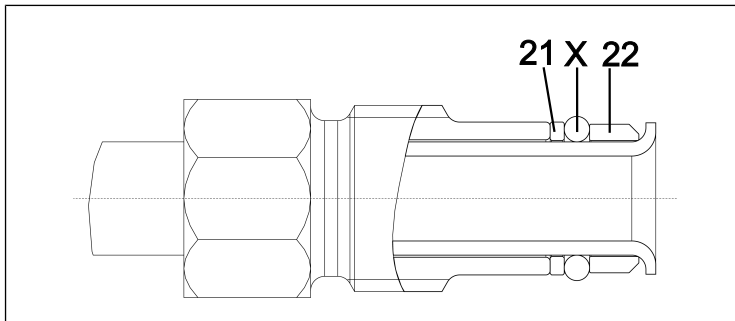

Fig. 31: Correct position of O-ring
2. Change the O-rings (16) and (17) on the separator hose connection (11).
3. Change the O-ring (15) on the high-performance condenser hose connection (12).
i When changing the O-rings, make sure that the new O-rings are positioned correctly (between sleeve (22) and sliding washer (21); see Fig. 31).